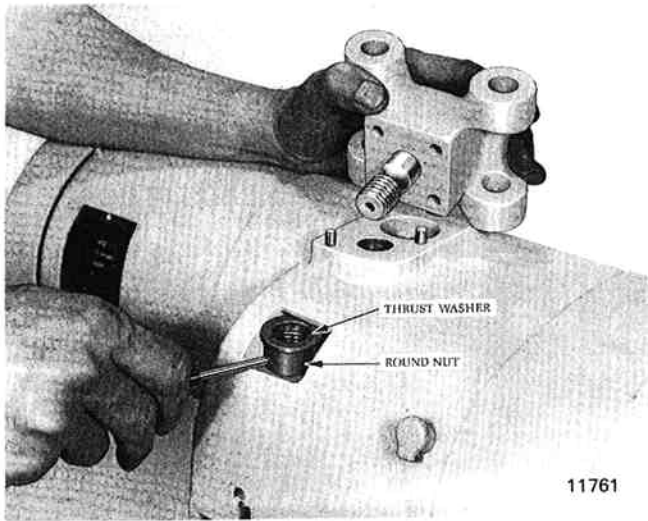

Figure 7-20. Removing Suspension Lug (1/4 Thru 1 Ton Model).
(1) On 1/4 thru 1 ton models drive grooved pin from the round nut inside the hoist frame. Hold round nut from rotating with drift punch thru access hole in side of hoist frame. Unscrew suspension stud assembly by wrenching hex on top of suspension lug (see fig. 7-20).
(2) On 2 ton models, remove three hex socket head screws securing the two lock plates to block at top of frame and pull out locks. Remove suspension lug, using an extra thin 1-1/4" open end wrench to unscrew suspension bushing from block. Instructions for removing block from frame are given in paragraph b. (2).